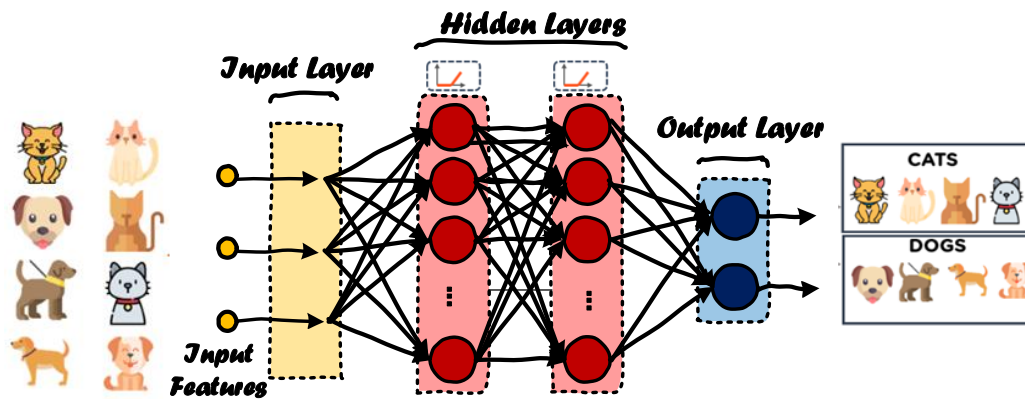

Figure 2. An Example of an image classification application
**Image Classification Application-** Today, artificial neural networks are used in various critical applications such as classification, pattern recognition, clustering, optimization, etc. **Image classification** is the process of analyzing the image to identify the 'class' of it (or the probability of the image being part of a 'class'). As shown in figure 2, a class is essentially a label, for instance, 'cat', 'dog', and so on.